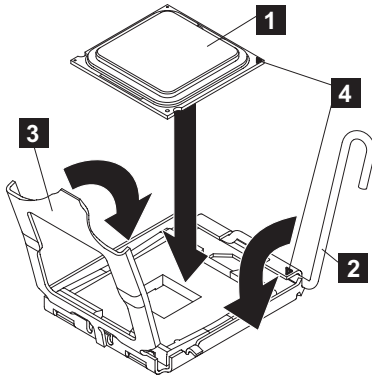

Figure 252. Closing the SAN Volume Controller 2145-CF8 microprocessor-bracket frame
4. To align the microprocessor with the socket, use the triangular alignment cutout on the microprocessor socket and the triangular alignment mark (**4** in Figure 252 on page 230) on the microprocessor. Also use the position of the notches to align the microprocessor.